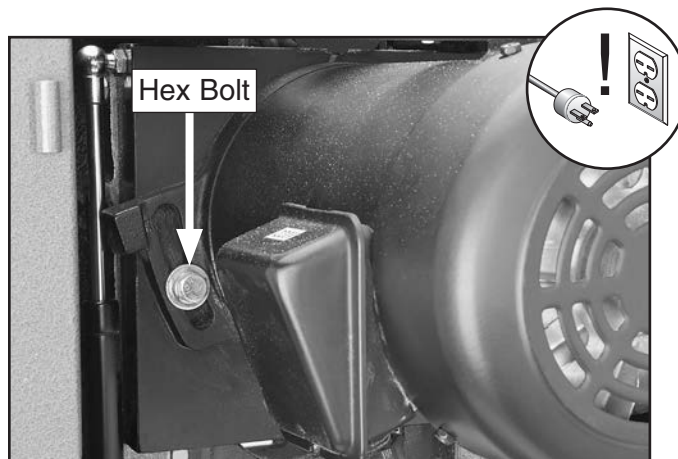

Figure 133. Belt tension adjustment bolt (one of two shown).
3. Loosen two hex bolts on motor (see **Figure 133**), and pivot motor up and down to make sure that it is movable.
9. Loosen motor adjustment bolt (see **Figure 133** on **Page 77**).